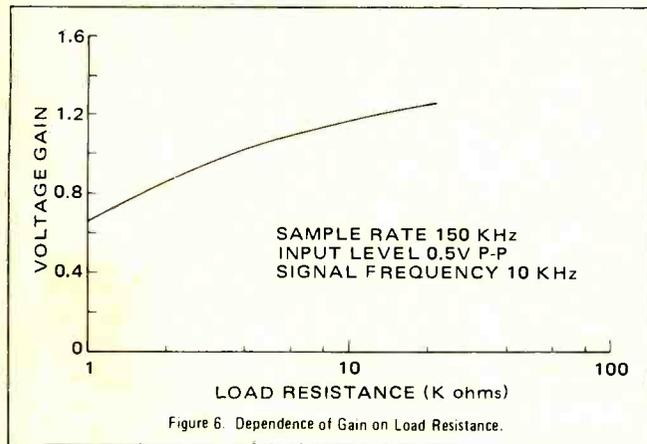

Figure 6. Dependence of Gain on Load Resistance.
2. The value of gain depends on the output termination resistance. See Fig. 6
Figure 6 shows the loading effect of the output terminating resistor. The data indicates the output source followers have approximately .400 ohms internal impedance. For this test, each output was connected through a terminating resistor to ground, thus isolating any interaction between the two output followers.